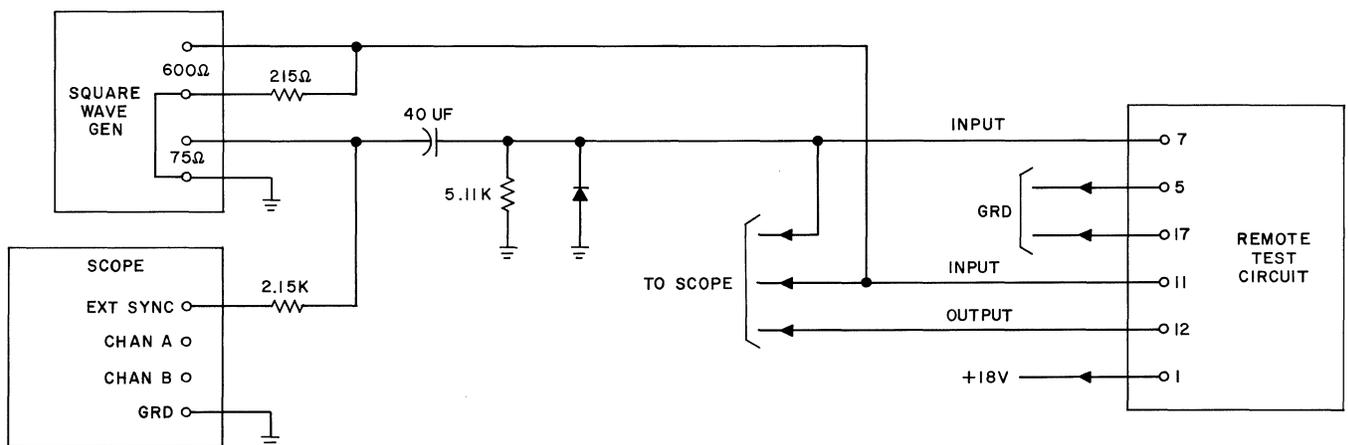

Fig. 45 — Remote Circuit Card Test
- (5) Connect the card as in the suggested test circuit shown in Fig. 45.